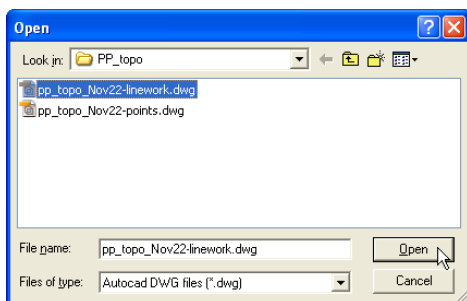

Figure 4-3. Open AutoCAD 3D Linework File
2. On the *Open* dialog box, navigate to the location of the desired file, select it, and click Open (Figure 4-3).